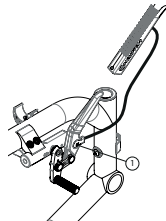

Fig. 38
- Loosen screw (1) (Fig. 38).
- Align eyelet (2) with the mounting hole.
- Re-tighten screw (1) on the lock lever.